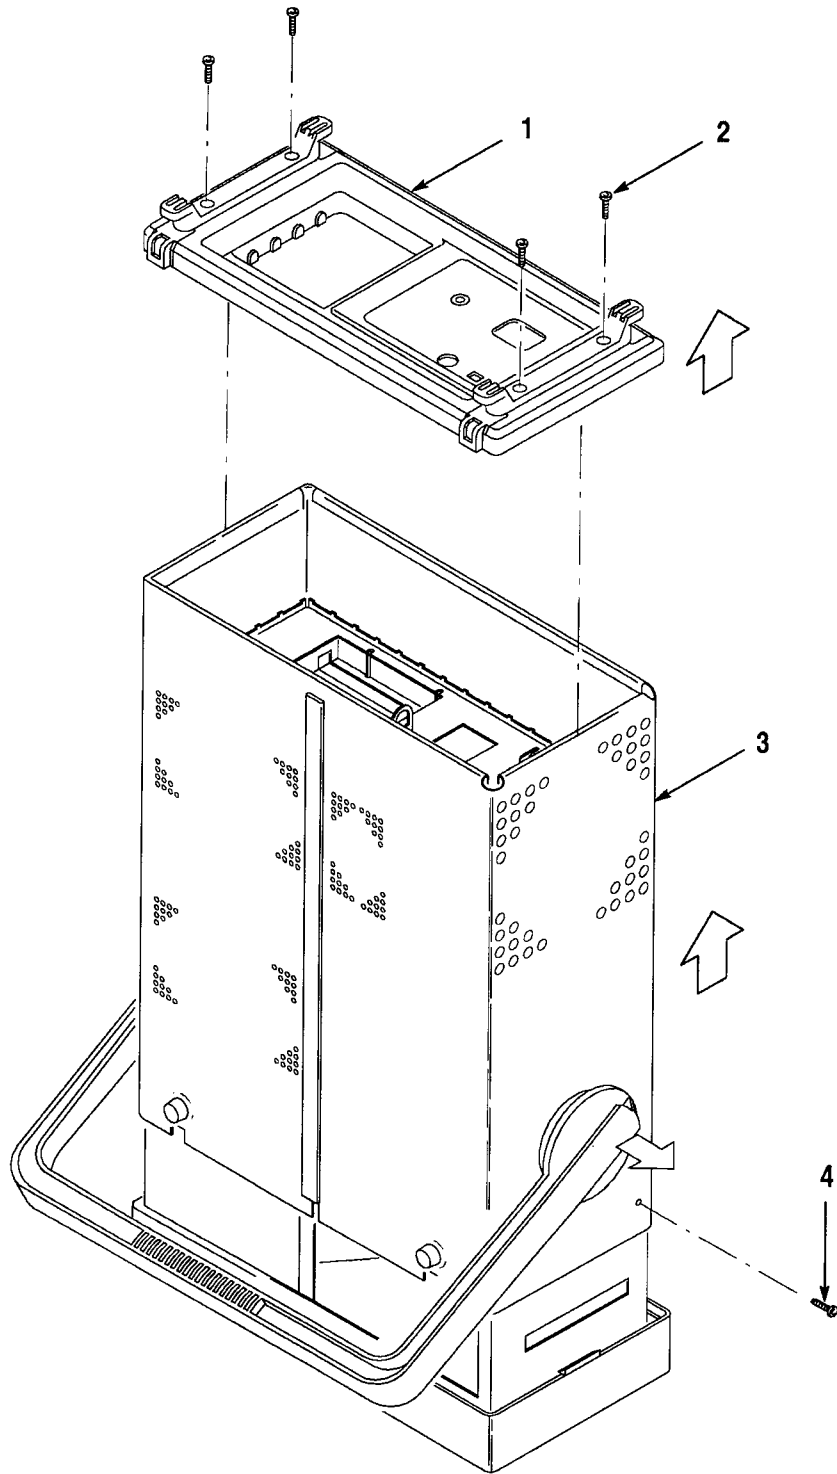

Figure 1: Oscilloscope Rear Panel and Cabinet Removal
1. Install the front cover. Set the oscilloscope face down with the front cover on the work surface and the bottom facing up (see Figure 1).
3. Using the screwdriver with size T-15 Torx® tip, remove the four screws (number 2 in Figure 1) securing the rear panel (number 1) to the oscilloscope. Lift off the rear panel. Note installed options marked on rear panel for later reassembly. Discard rear panel.